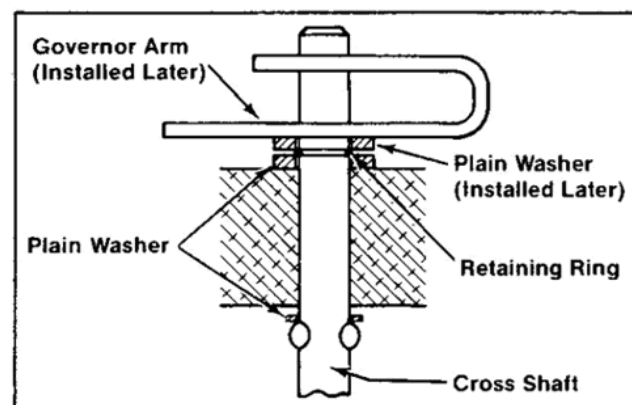

Figure 11-6. Installing Governor Cross Shaft.
1. Install the plain washer, cross shaft, plain washer, and retaining ring. Refer to Figure 11-6.